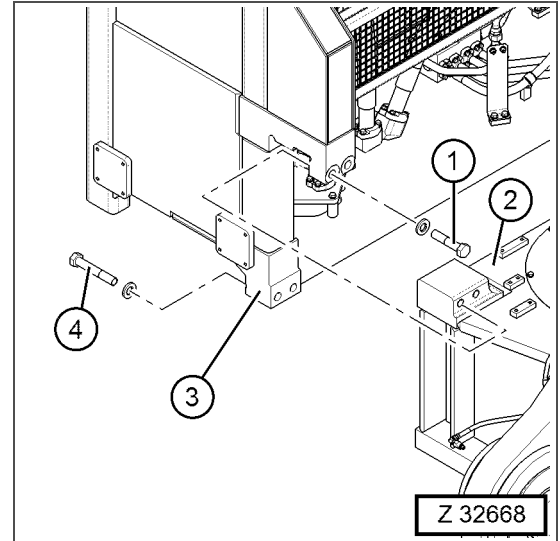

Fig. 3-174
4. Assemble mounting bolts (Fig. 3-174, Pos.1) with washers from inner side at the hydraulic oil cooler assembly.
5. Assemble mounting bolts (Fig. 3-174, Pos.4) with washers from outer side at the hydraulic oil cooler assembly.